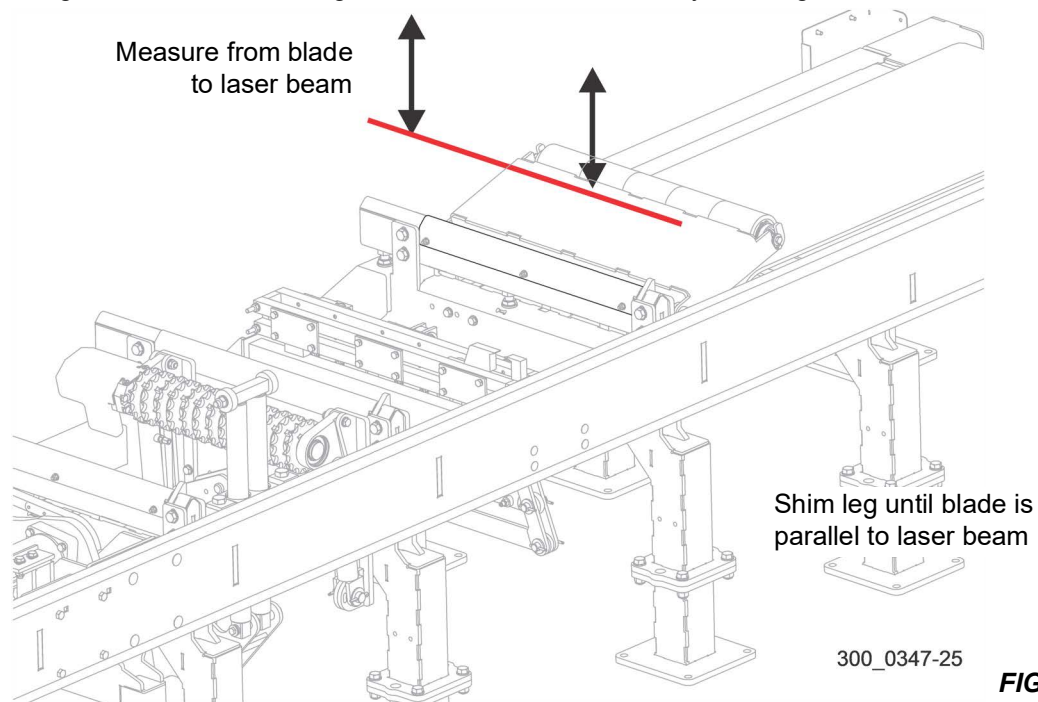

FIG. 3-38
1. Adjust the bed rails to 1/2" (13mm) below the log clamp stop. See Fig. 3-38.
- Repeat adjustment as necessary at each bed rail. See Fig. 3-38.